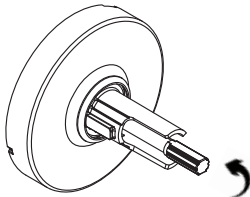
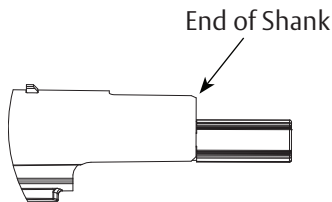
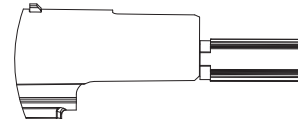

Figure 20
Figure 21
Figure 22
4. Rotate cap back counter-clockwise (Figure 20) until tool handle is approximately in line with the end of the shank as shown in Figure 21 for Fixed Core cylinder (FC) or in Figure 22 for Interchangeable Cylinder (LFIC). The flat on the tool should be at the 12 o'clock position.